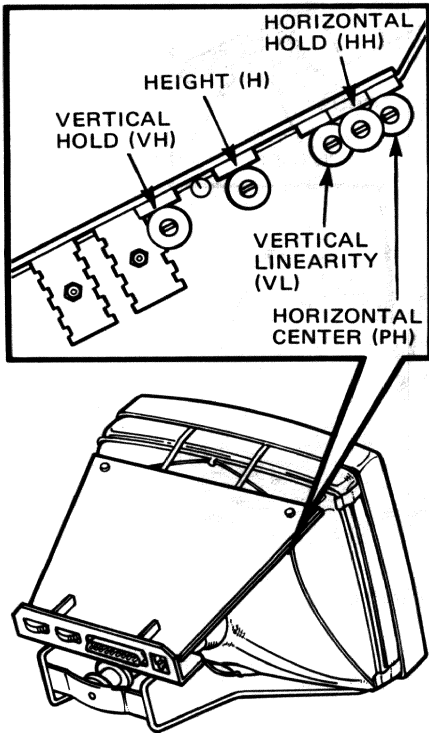

Figure 4-9 Monitor Module Controls – Left Side
1. Adjust the horizontal centering (PH) control (Figure 4-9) so that the screen of E's is centered side to side.
1. Adjust the vertical linearity (VL) control (Figure 4-9) until there is no distortion in the screen of E's (the E's on the top of the screen are the same height as the E's on the bottom and at the center of the screen).
2. Adjust the height (H) control (Figure 4-9) for comfortable viewing.
3. Compare the measurements from steps 1 and 2. If the difference between the two measurements is greater than 6 mm (1/4 in), adjust the horizontal center (PH) control (Figure 4-9).
1. Using the alignment template, measure the height of the center square (Figure 4-12). It should be 25 mm (1 in) \pm 2 mm (1/16 in). If not, adjust the height (H) control (Figure 4-9).
2. If not, adjust the vertical linearity (VL) control (Figure 4-9) until the pattern is the same height in all four corners.